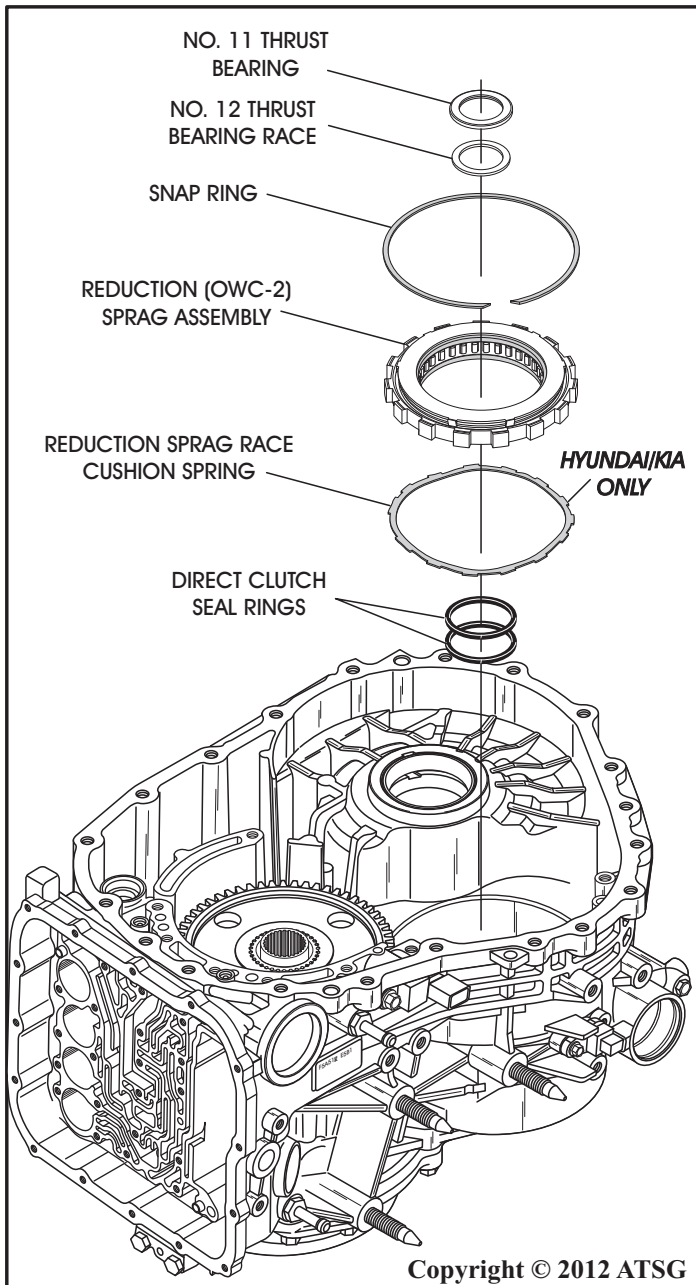

Figure 77
46. Remove the number 11 thrust bearing, as shown in Figure 77.
47. Remove the number 12 thrust bearing race, as shown in Figure 77.
48. Remove the reduction sprag retaining snap ring from the case, as shown in Figure 77.
49. Remove the reduction (OWC-2) sprag assembly from case, as shown in Figure 77, and set aside for the component rebuild section.
50. Remove the reduction sprag race cushion spring, as shown in Figure 77.
51. Remove and discard the two direct clutch seal rings from the case, as shown in Figure 77.